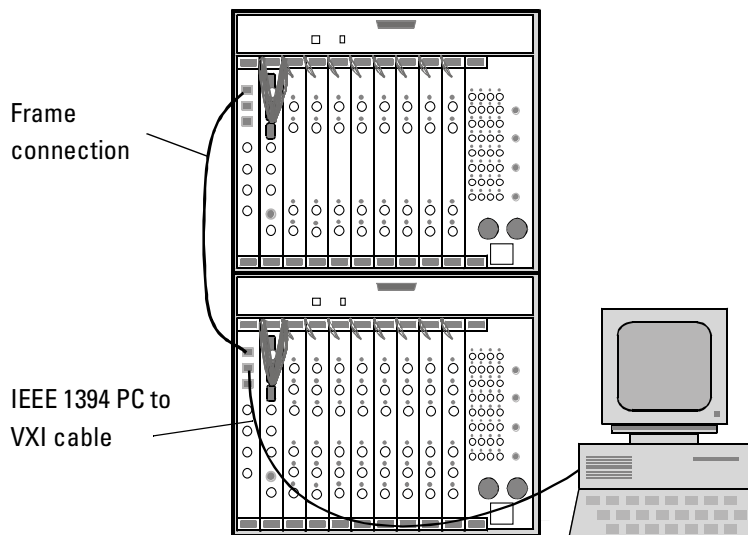

Figure 39 Configuration for Testing Multiplexers and Demultiplexers
- 6 Connect the PC to the IEEE 1394 PC to VXI module of the mainframe (see *Figure 39*).